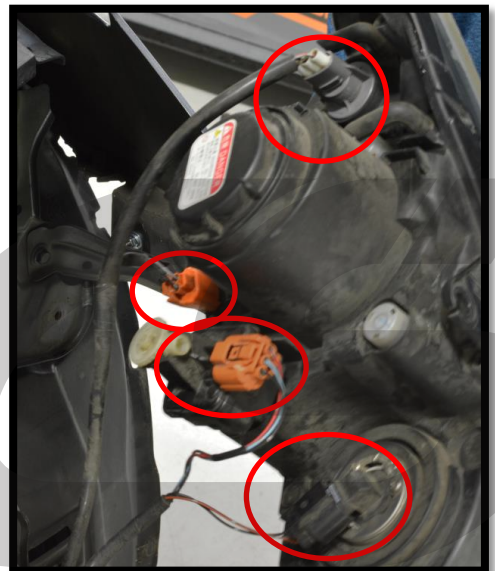

Figure 1h
- q) Gently pull on the headlight to release it from its mounting. Then, remove the four (4) electrical connectors from the backside of the headlight. Shown circled in red in Figure 1h. It will now be free to remove from the vehicle.**